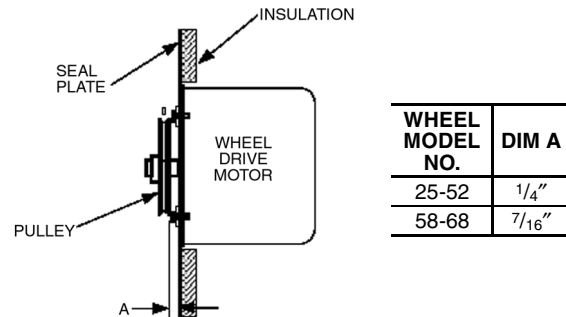

Fig. 84 — Pulley Location
6. Install the pulley to the dimension shown in Fig. 84 and secure the set screw to the drive shaft.